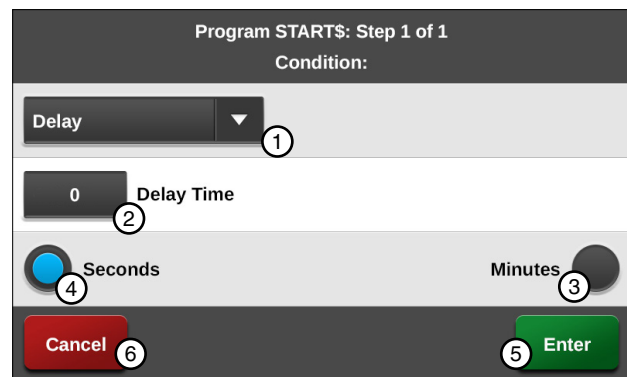

Figure 94-2 1. Condition Drop-Down 2. Delay Time 3. Minutes 4. Seconds 5. Enter 6. Cancel
3. The default condition is Delay. If Delay is not selected select the **Choose Condition** drop-down menu and choose **Delay**. Refer to Figure 94-2.